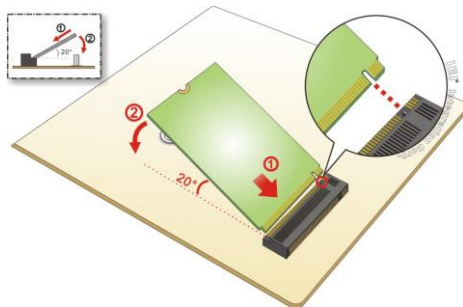

Figure 3-4: Inserting the M.2 Module into the Slot at an Angle
Step3. Line up the notch on the module with the notch on the slot. Slide the M.2 module into the socket at an angle of about 20° (Figure 3-4).